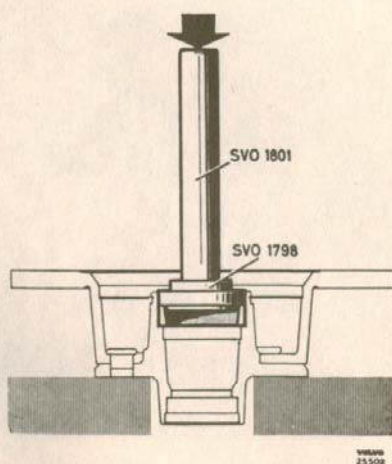
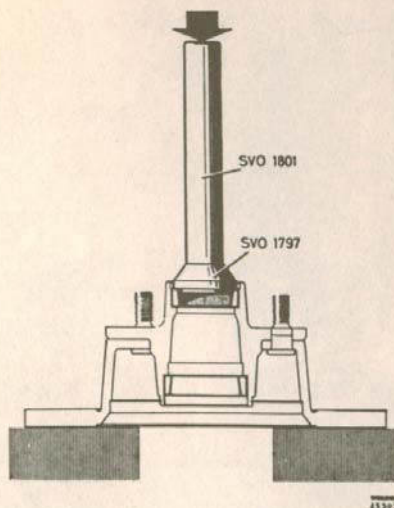

Fig. 6-11. Fitting inner bearing ring
Fig. 6-12. Fitting outer bearing ring
7. Press in the new bearing rings. In addition to the standard handle SVO 1801, drift SVO 1798 (Fig. 6-11) is used for the inner bearing ring and drift SVO 1797 (Fig. 6-12) for the outer bearing ring.